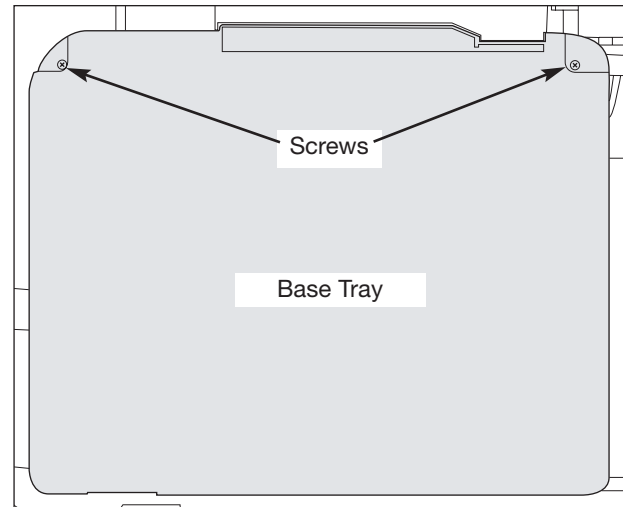

Figure 5-34. Base Tray Removal
2. Using a phillips head screwdriver, extract the two screws securing the base tray to the unit frame. (See Figure 5-34)